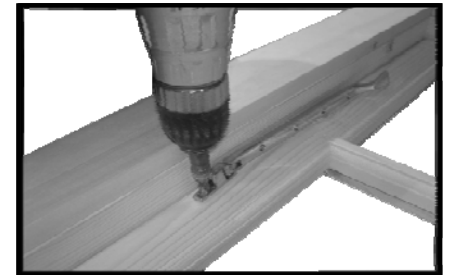

Fig A18
30. Fit the Casement Stay (fig A18) on the window using 2x 25mm screws.